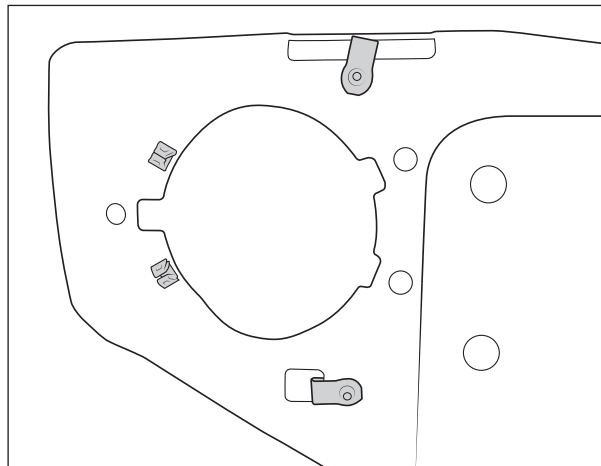

Figure 32
- A. Install provided U-nuts to fairlead stamping as shown (fig. 32).
- A. Install provided U-nuts to fairlead in top and bottom holes as shown (fig. 32)